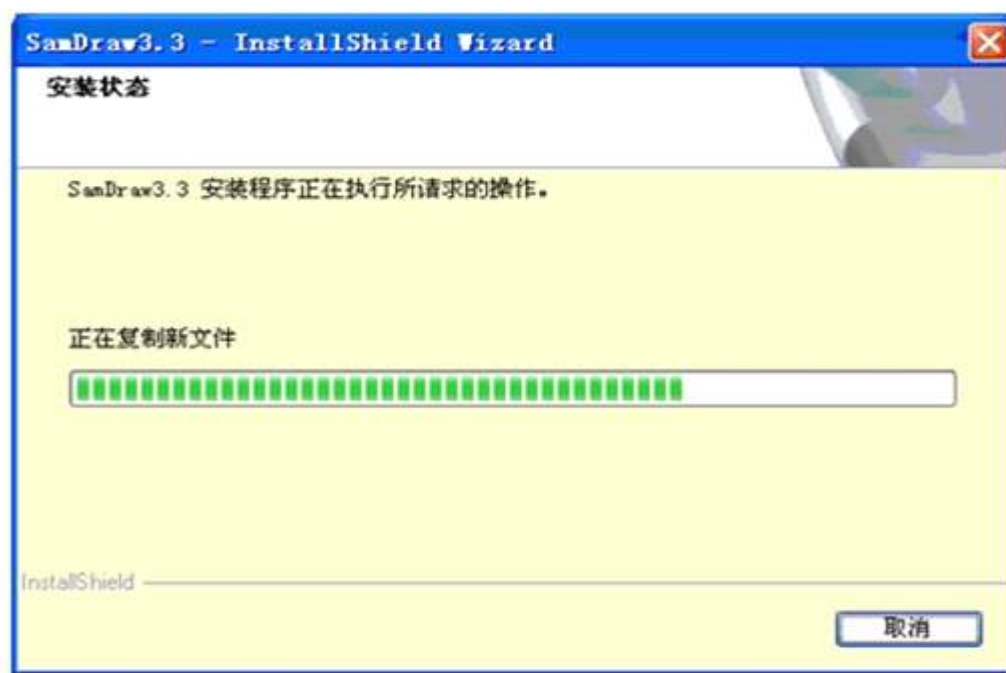

Figure 2-7: Installation process dialog
- Start to install the software. See Figure 2-7: